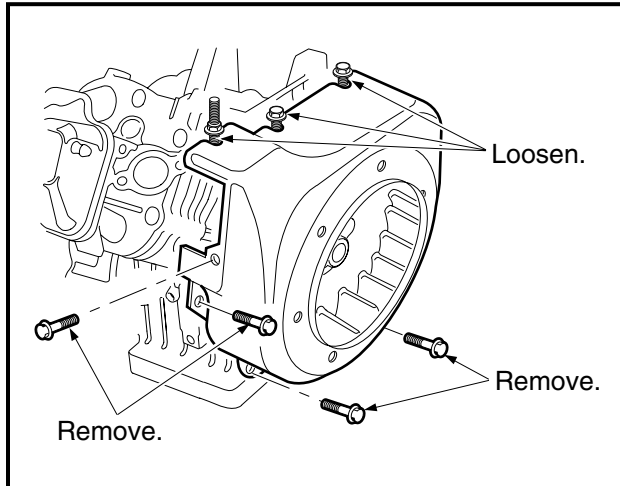

Figure 3-54 Flywheel Housing
1. Loosen three screws and remove the remaining four screws attaching the flywheel housing, then remove the housing (**Figure 3-54, Page 3-28**).